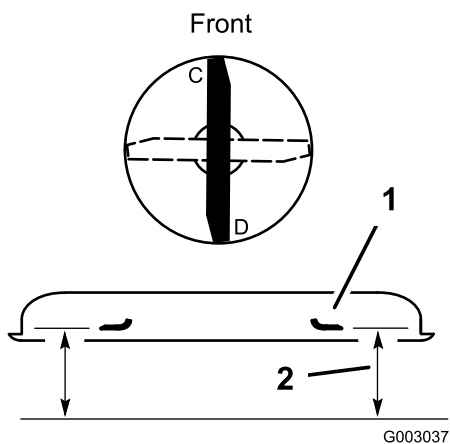

Figure 53
2. Position one blade front-to-rear (Figure 53). Measure at **C** and **D** locations from a level surface to the cutting edge of the blade tips (Figure 53).